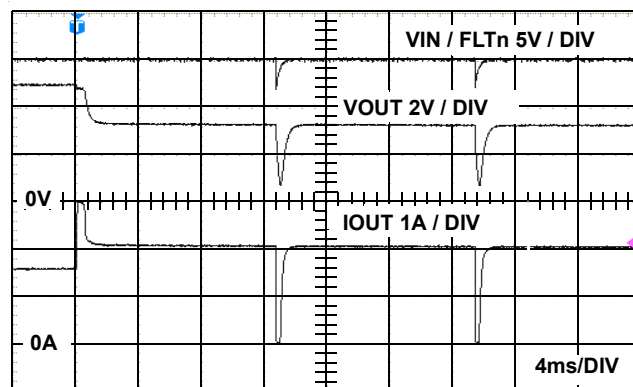

FIGURE 19. AUTO RESET OPERATION
Initially as voltage is applied to VIN, the pull up resistor (R_{pu}) provides for pull up to VIN on both the ENABLE pin asserting the output once $V_{IN} > 2.5V$ and on the FLTn pin. Once turned on and an overcurrent (OC) condition occurs the IC provides CR protection for 10ms and then the FLTn pin pulls low through R_{pu} and also pulling the ENABLE low thus resetting the device fault condition. At this time the R_{pu} charges the cap and the voltage on the ENABLE / FLTn node rises until the ENABLE > 2.0 and the output is asserted on once again. This automatic reset cycle will continue until the OC fault no longer exists on the output. After several seconds in this mode of operation the IC thermal protection invokes adjusting the timing of the on-off cycle to prevent excessive thermal dissipation in the power switch protecting itself and surrounding circuitry. See Figure 19 for operation waveform.